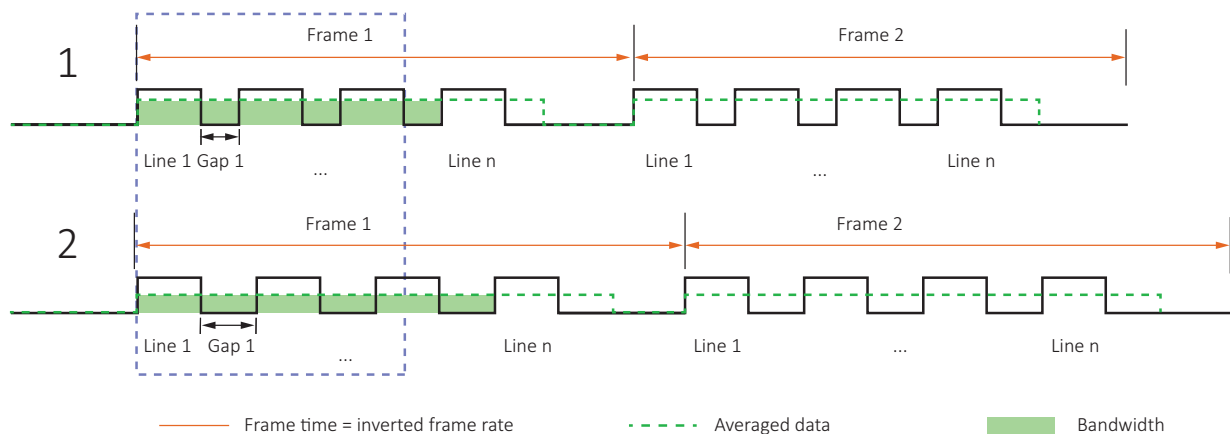

Figure 68: Sensor data output and camera data output
Figure 68 shows the bandwidth for a higher (1) and a lower (2) value for `DeviceLinkThroughputLimit` with Alvium G1.
- When high-resolution Alvium G1 cameras are operated at higher frame rates, corrupted frames can occur. This is shown schematically in Figure 68.